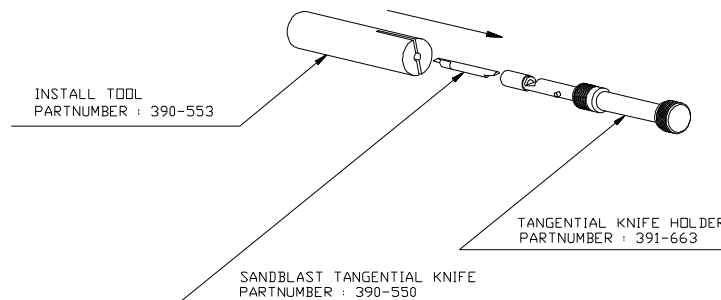

FIGURE 1-9 :
1. As shown in Figure 1-9, insert the knife blade into the knife holder. Make sure the knife blade is firmly fixed into the holder. The blade is firmly fixed when you can not remove it manually from the knife holder. To remove the blade when it is too blunt, push at the back of the blade with a screwdriver. The blade will jump out of its holder then.